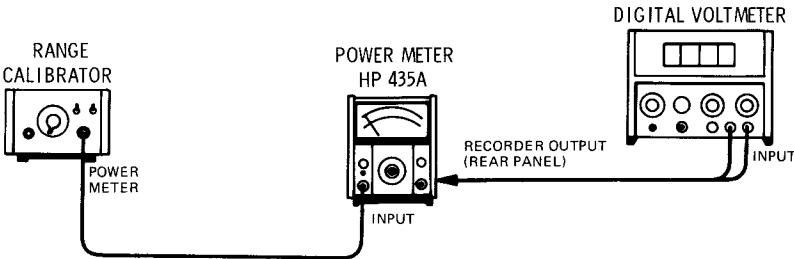

Figure 5-2. 435A Adjustment Setup With Calibrator
5. Remove the right side cover of the Power Meter, connect the equipment as shown in Figure 5-2, and set the LINE switch to ON.